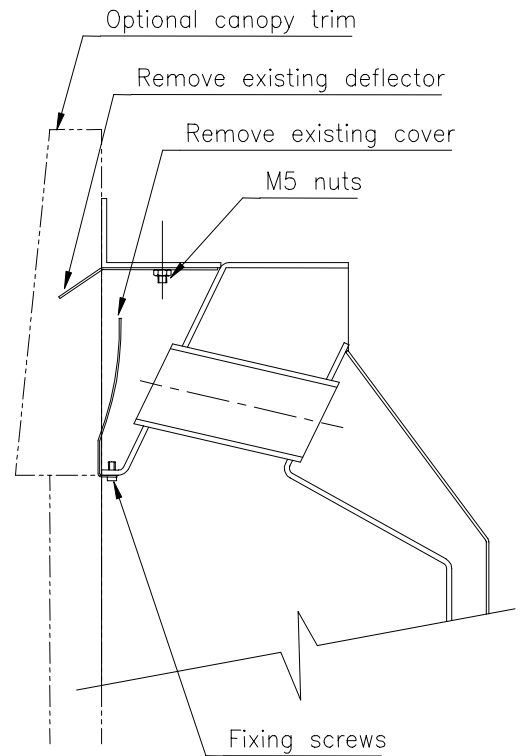

Fig. 6 Optional canopy trim
7. If a flat trim has been supplied it is attached to the fire by means of four magnets. First attach the magnets to the special raised pads around the flange of the fire, and then attach the trim to the magnets. If the optional canopy trim has been supplied, first remove the existing front cover by undoing the two screws in its bottom edge, and remove the small deflector by undoing the two M5 nuts. Neither item is required. Secure the canopy trim using the screws which held the cover. (See Fig. 6)
13. Replace the ceramic blocks and coals (see Figs. 6 and 7).